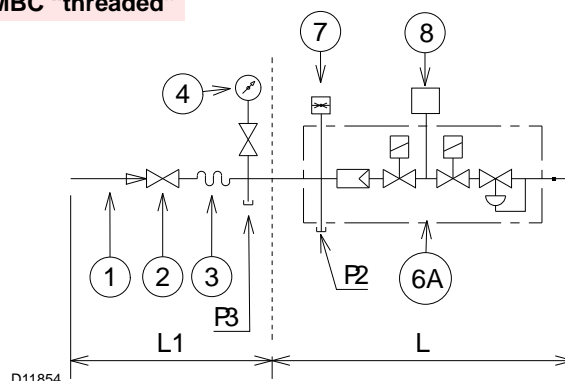
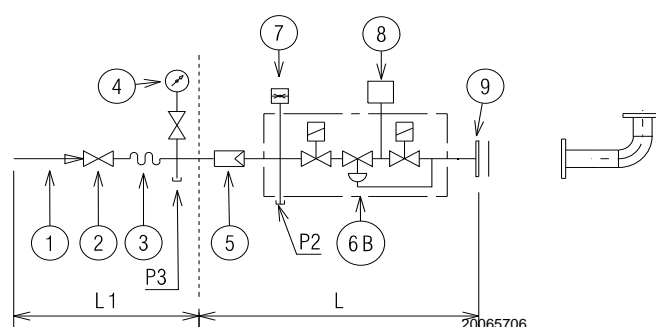
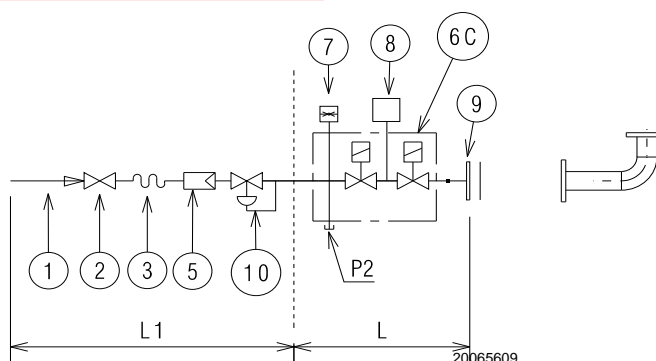
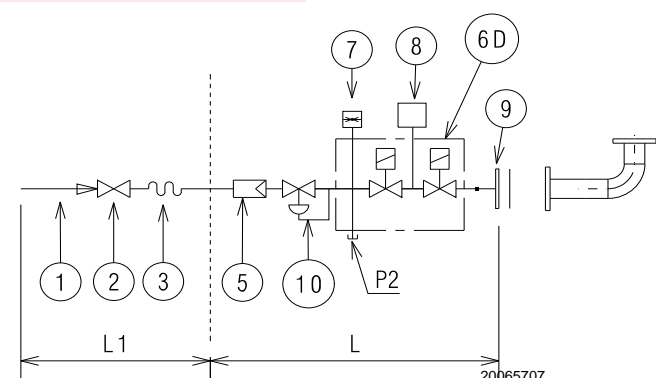

Fig. 18
Fig. 19
Fig. 20
Fig. 21
Key (Fig. 18 - Fig. 19 - Fig. 20 - Fig. 21)
Gas pressure measured at the test point P1) (Fig. 18), with:
Pressure loss at gas butterfly valve 10) (Fig. 18) with maximum opening: 90°.
- subtract the combustion chamber pressure from the gas pressure measured at test point P1) (Fig. 18).
Gas pressure at test point P1)(Fig. 18) = 28.6 mbar
To calculate the required gas pressure at test point P1) (Fig. 18), set the maximum modulating output required from the burner operation:
- read, on the right (column 1), the pressure at the test point P1)(Fig. 18).
Pressure required at test point P1)(Fig. 18).